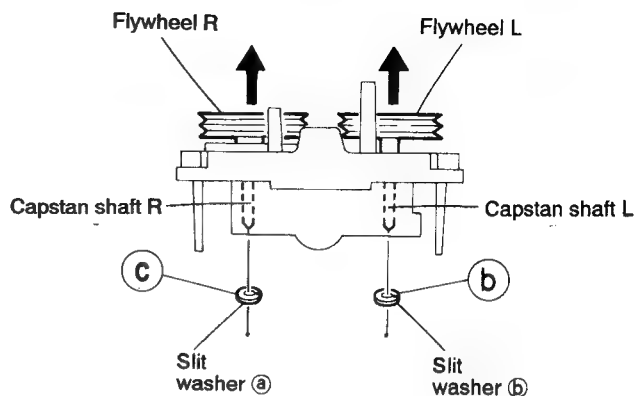

Fig. 5-25
■ Removing the Flywheel (See Figs. 5-25 and 5-26)
3. After turning over the cassette mechanism, remove the slit washers ⑥ and ⑦ fixing the capstan shafts R and L, and pull out the flywheels R and L respectively from behind the cassette mechanism.